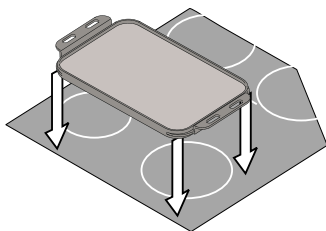
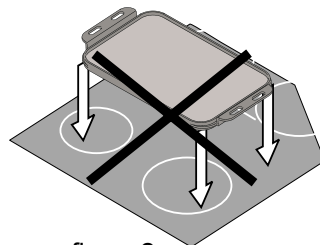

figure 1
figure 2
The cooktop has single radiant surface elements at 3 locations; the right, center and left rear (Figure 1) element positions.
2. Push in and turn the surface control knob in either direction to the desired setting (Figure 2). Turn the knob to adjust the setting if desired. Start most cooking operations on a higher setting and then turn to a lower setting to finish cooking. Each surface element provides a constant amount of heat at each setting. A glowing red surface heating area extending beyond the bottom edge of the cookware indicates the cookware is **too small** for the surface heating area.
The cooktop is equipped with dual radiant surface element located at the right & left front (See Figure 1 or 3) positions. Symbols on the knob are used to indicate which coil of the dual radiant element will heat. The • symbol indicates that only the inner coil will heat (Figure 1). The ● symbol indicates that both inner and outer coils will heat (Figure 3). You may switch from either coil setting at any time during cooking.
2. Push in and turn the control knob counterclockwise (See Figure 2) for smaller cookware or clockwise (See Figure 4) for larger cookware.
The symbol  indicates that only the single portion of the Bridge element will heat (see Figures 1 and 2). The symbol  indicates that both the single and Bridge portions of the element will heat together (see Figures 3 and 4). You may switch from either of these settings at any time during cooking with the Bridge element.
2. Push in and turn the control knob counterclockwise (see Figure 2) to heat the portion of the Bridge element for normal shaped cookware or clockwise (see Figure 4) for larger or rectangular shaped cookware.
The griddle is intended for direct food cooking. Do not use pans or other cookware on the griddle. Doing so could damage griddle finish. Set the griddle over the element (figure 1) taking care to not put the legs of the griddle directly on the heating area (figure 2).